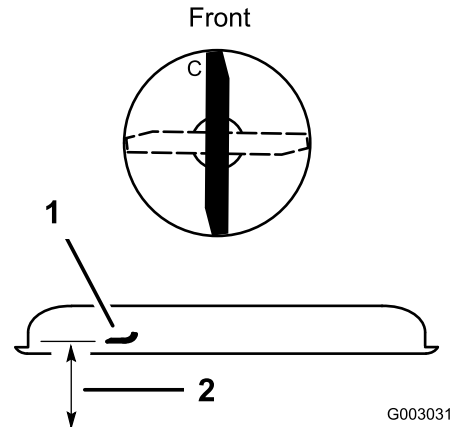

Figure 45
1. Rotate the blade until the ends face forward and backward (Figure 45).
2. Measure from a level surface to the cutting edge, position **C**, of the blade (Figure 45). Note this dimension.